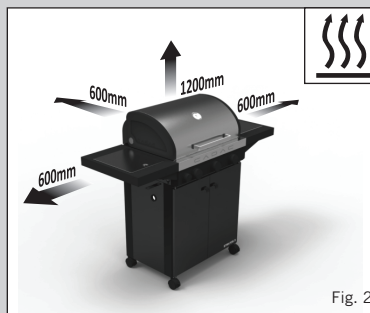

Fig. 2
- Ensure the appliance is used away from flammable materials. Minimum safe distances are 1.2m above the appliance and 600mm to the rear and sides of the appliance (see Fig. 2).